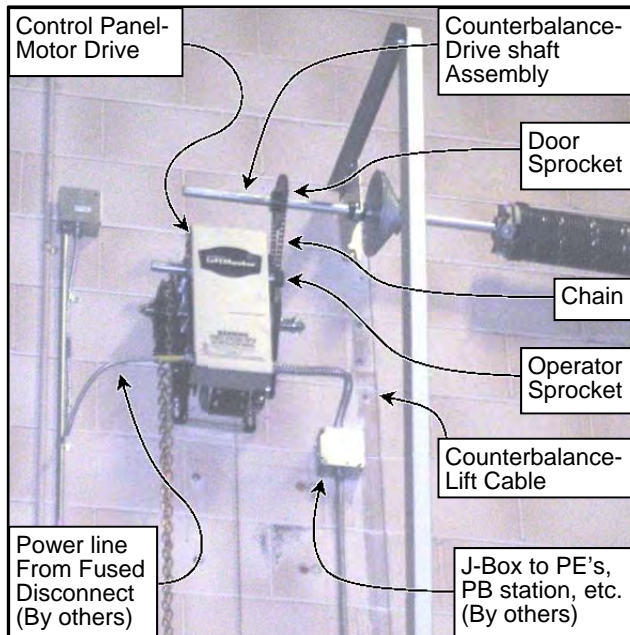

Figure 31
3. **Counterbalance-Drive Shaft & Motor Drive Chain:** The doors' counterbalance-drive shaft & motor drive chain are aligned on either side of the door and will need lubrication & adjustment. Refer to the Door Operator's Installation Manual & Owner's Manual for further information about specific drive chain lubrication. (See Figure 31)